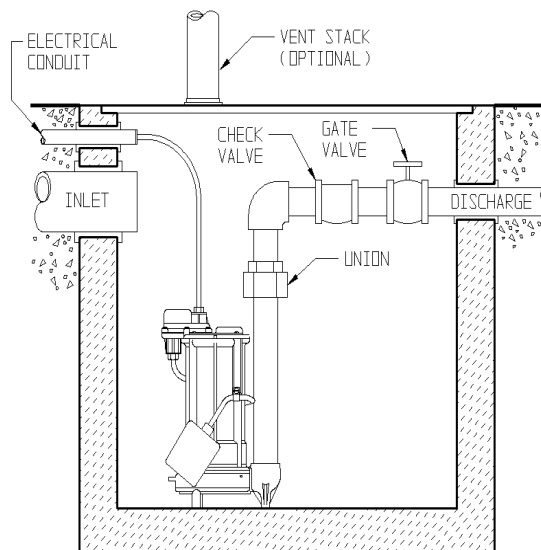

Fig. 2 – Typical Installation Simplex System
- A. **Simplex (One Pump) Systems (see Fig. 2):** Set the pump in place making sure the float has adequate clearance to the side wall of the basin. The float must be free to move throughout its travel and not contacting the pump body, piping, or other objects. If an optional control device or float is used, follow the directions for mounting that accompany the optional control. Connect the discharge pipe to the pump's threaded discharge. **IMPORTANT: DO NOT REDUCE THE DISCHARGE PIPE SIZE BELOW THAT WHICH IS PROVIDED ON THE PUMP.** Contact Liberty Pumps or other qualified person if you have questions regarding proper pipe sizes and flow rates. Mount the basin cover making sure it is properly sealed.